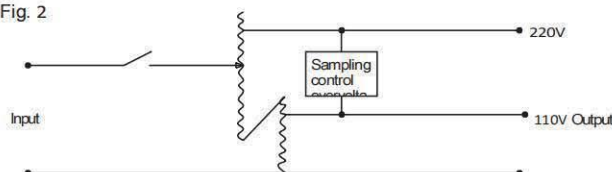

Figure 4
- The electrical schematic of the single-phase voltage regulator is shown in Figure 4;